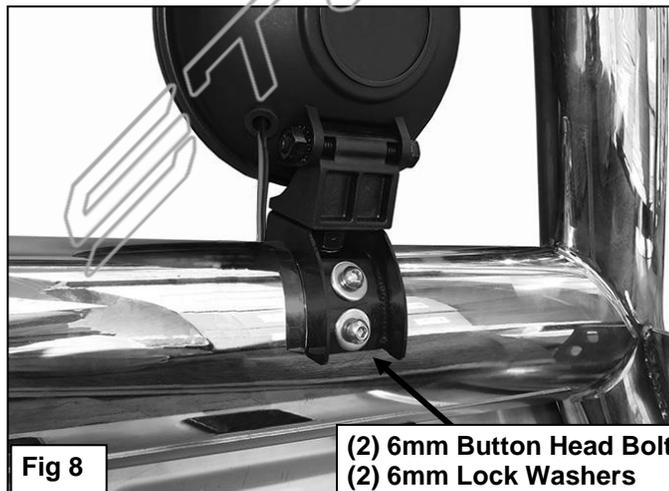

Fig 8
11. If aftermarket lights, (not included), are to be installed, remove the rubber plugs on the top of the cross bar. Select (1) Light Bracket, **(Figure 7)**. Attach the light to the Light Bracket using the hardware included with the light. Attach the light and Bracket to the back of the Bull Bar with (2) 6mm Button Head Bolts, (2) 6mm Lock Washers and (2) 6mm Flat Washers, **(Figure 8)**. Adjust the light as desired.